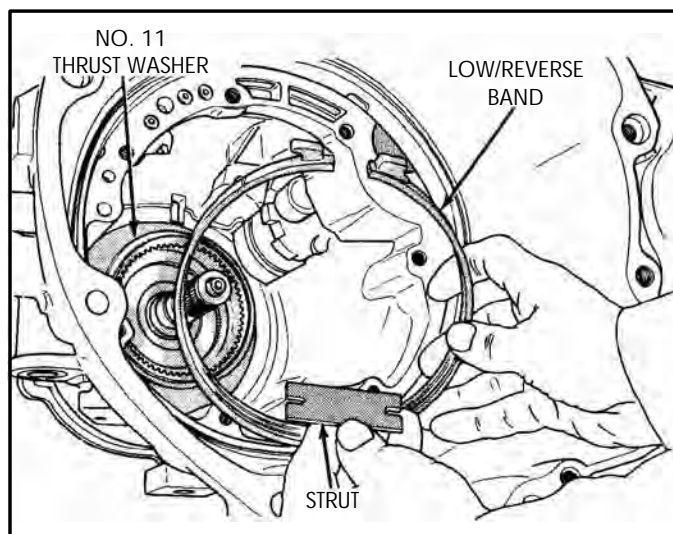

Figure 59
38. Remove low/reverse band and the band strut, as shown in Figure 59.